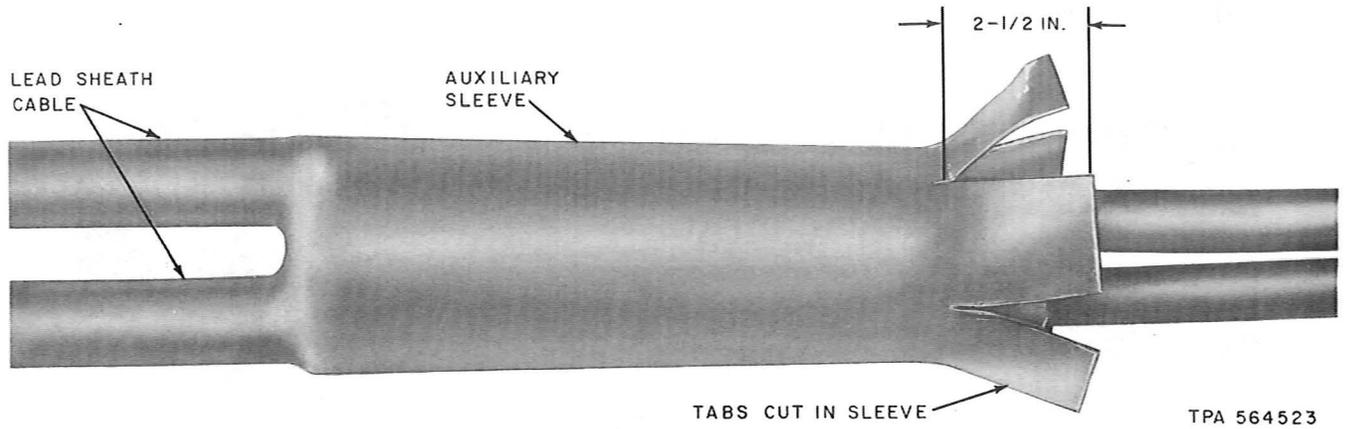

Fig. 4—Tabs Cut in Sleeve
3.05 Cut eight tabs 2-1/2 inch long in the sleeve as would be done in a cable sheath for placement of the inner sheath clamp (Fig. 4).